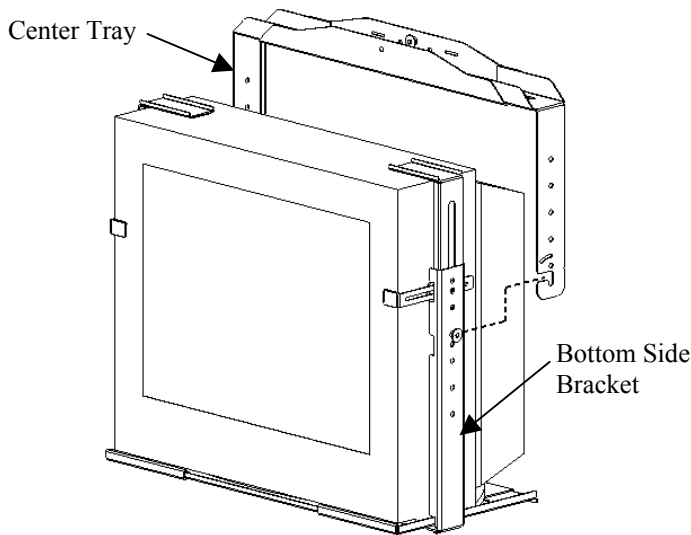

Figure 15. Attach Center Tray
1. Connect the mounting buttons on the bottom side brackets (40) to the buttonholes on the LH and RH brackets (130 and 140). See Figure 15.